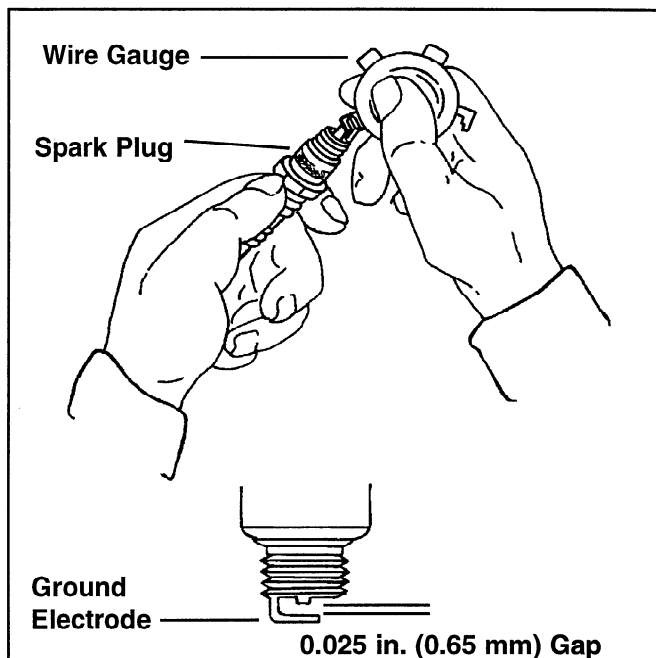

Figure 8. Servicing Spark Plug.
3. Check gaps using a wire feeler gauge. Adjust the gaps to **0.025 in. (0.65 mm)** by carefully bending the ground electrode. See Figure 8.